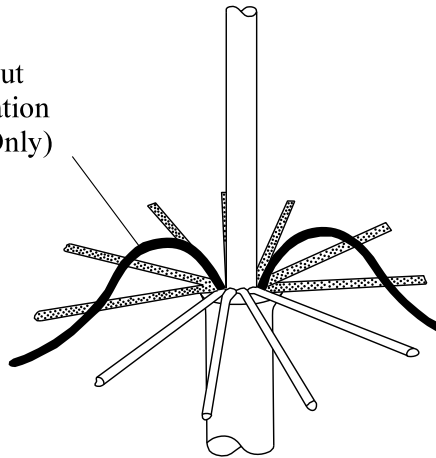

Fig 1
5. Cut three 20mm lengths of “Scotchfil” putty tape and press the mid points together to form a ‘Y’ piece of double thickness – Fig 1.